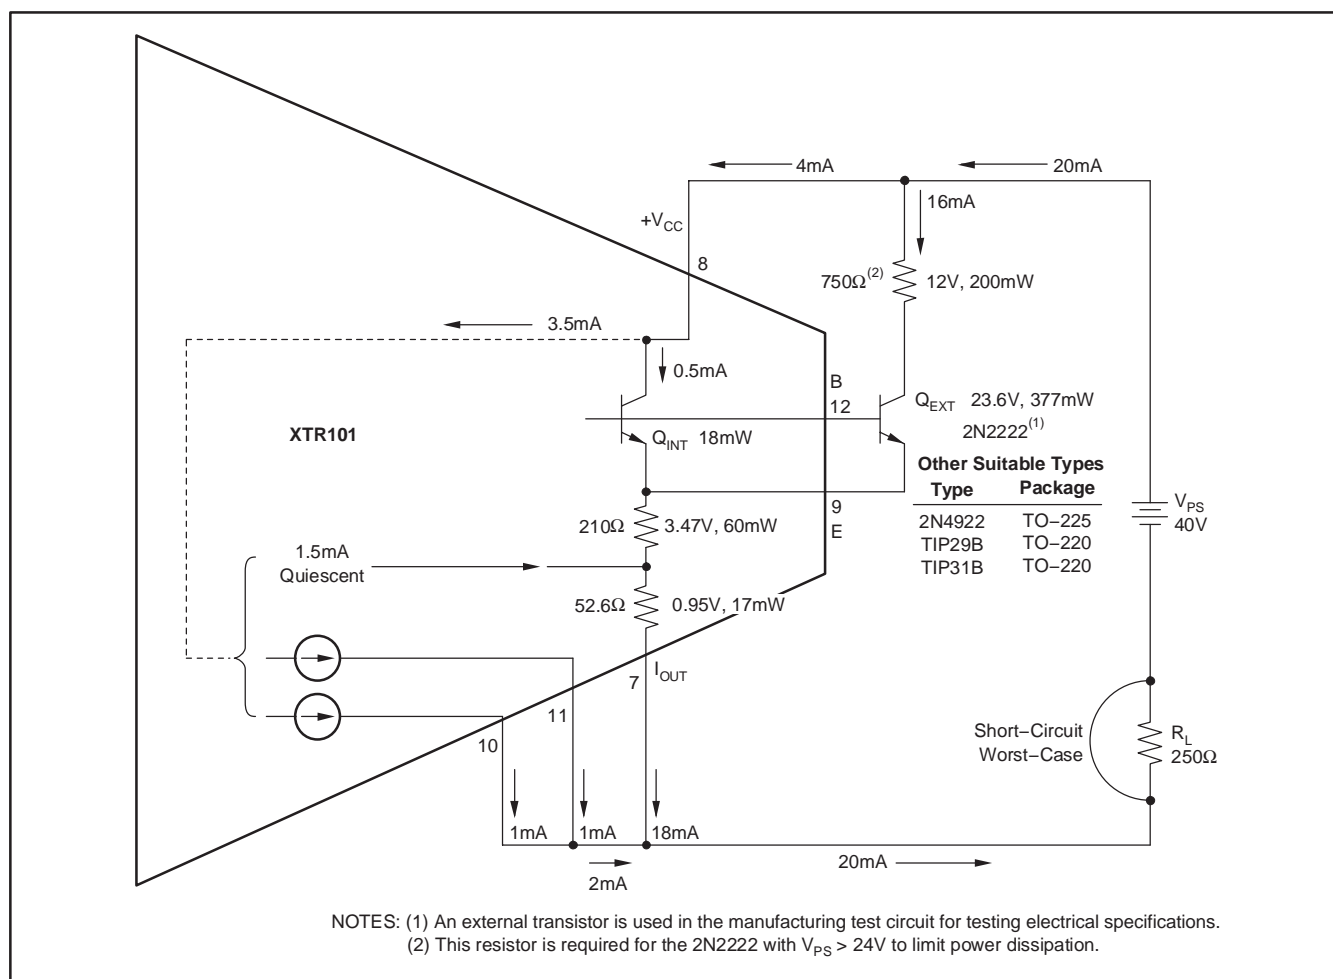

Figure 2. Power Calculation of the XTR101 with an External Transistor
The optional external transistor, when used, is connected in parallel with the XTR101 internal transistor. The purpose is to increase accuracy by reducing heat change inside the XTR101 package as the output current spans from 4-20mA. Under normal operating conditions, the internal transistor is never completely turned off, as shown in Figure 2. This maintains frequency stability with varying external transistor characteristics and wiring capacitance. The actual current sharing between internal and external transistors is dependent on two factors:
1. 2N2222 in the TO-18 package. For power-supply voltages above 24V, a 750Ω, 1/2W resistor should be connected in series with the collector. This will limit the power dissipation to 377mW under the worst-case conditions; see Figure 2. Thus, the 2N2222 will safely operate below its 400mW rating at the upper temperature of +85°C. Heat sinking the 2N2222 will result in greatly reduced accuracy improvement and is not recommended.